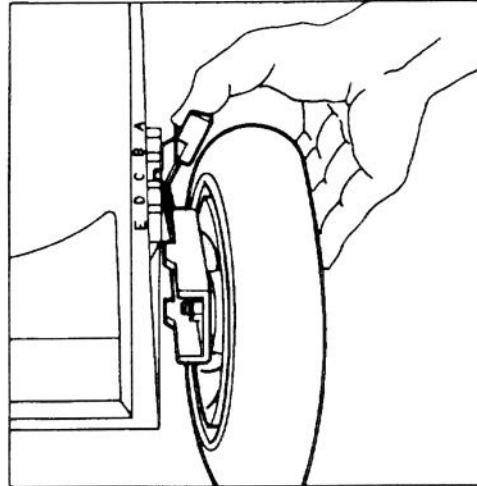

Figure 14
Five letters cast into the housing represent each graduated increment (Fig. 14).
2. For easier adjustment, lift housing up so wheel is off ground. Squeeze adjusting lever toward wheel and move them to desired setting (Fig. 14). Assure pin on adjusting lever engages notch in housing. Adjust all wheels to the same setting.